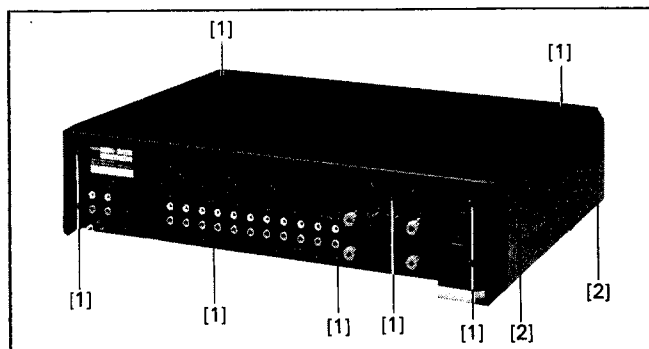

Fig.2.1
- Remove 9 screws (1) on the top and rear (Fig. 2.1).
- Unfasten 2 screws (2) on each side (Fig. 2.1).